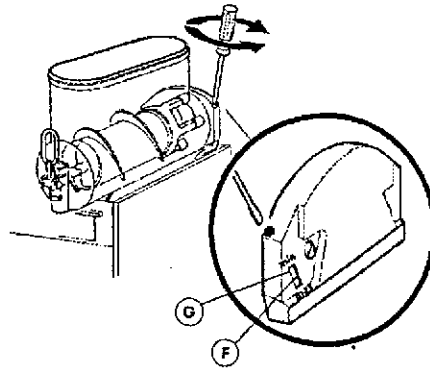

figure 4
5.2/I Granita viscosity adjustment; proper Granita viscosity is factory preset. To change the viscosity, if needed, use a standard screwdriver to turn the adjustment screw located in rear wall of each container as follows (see figure 4):